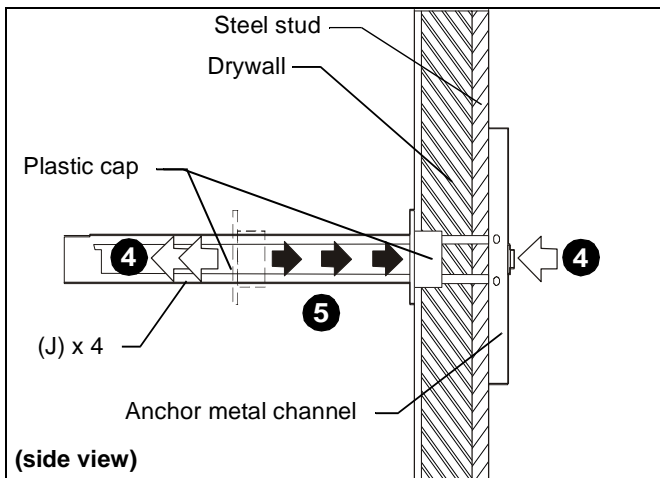

Figure 6
4. Holding plastic straps on anchor (J), pull anchor away from wall until channel rests flush behind wall making sure anchor channel is positioned vertically on stud. (See Figure 6)
5. Slide plastic cap on anchor (J) towards wall until flange of cap is flush with wall. (See Figure 6)